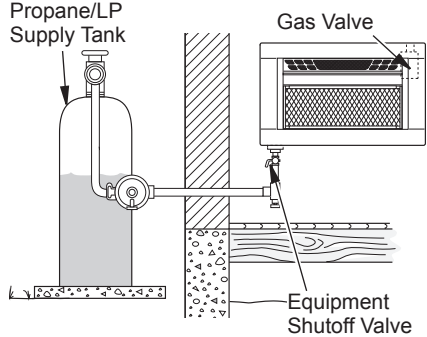

Figure 20 - Checking Gas Joints for Propane/LP Gas
3. Check all joints from gas supply (see Figure 20 or 21) to equipment shutoff valve. Apply a noncorrosive leak detection fluid to all joints. Bubbles forming show a leak.
4. Check all joints from equipment shutoff valve to control valve (see Figure 20 or 21). Apply a noncorrosive leak detection fluid to all joints. Bubbles forming show a leak.